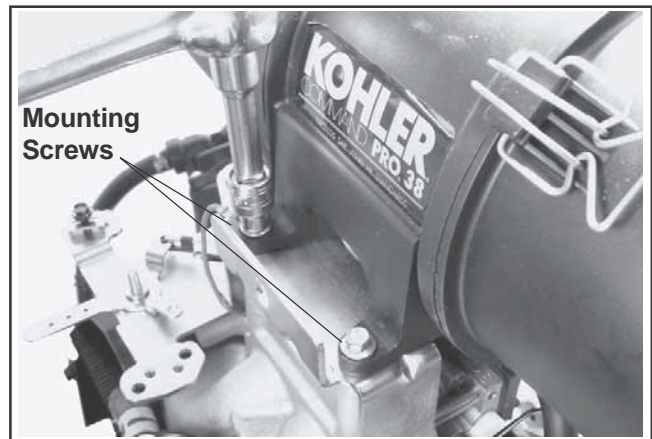

Figure 8-9. Mounting Screws.
3. Remove the two screws securing the air cleaner and main control bracket to the intake manifold bosses. See Figure 8-9.